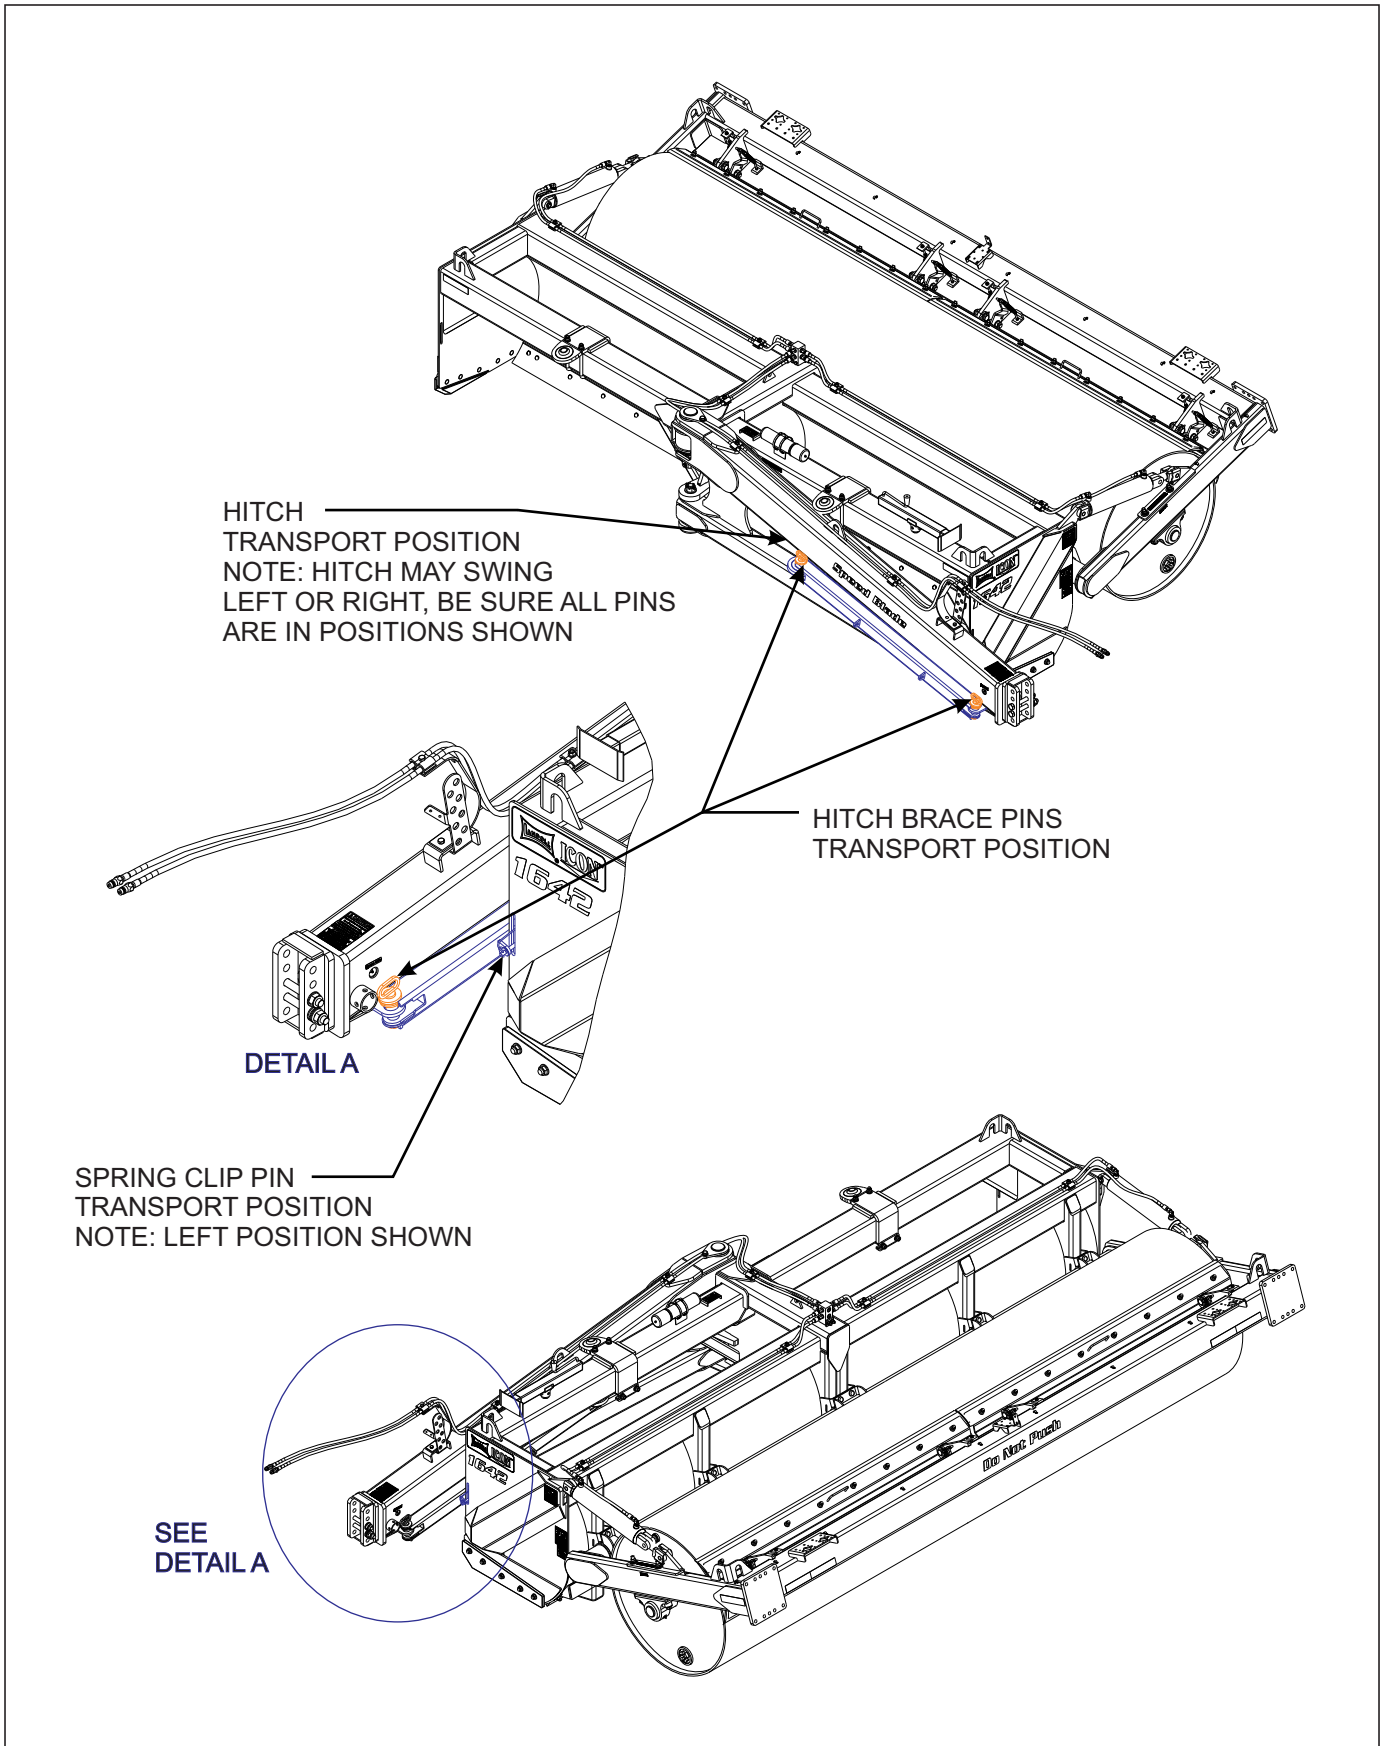

Figure 5-1: Hitch Swing (1 of 2)
- When all pins are secured in positions shown (**See Figure 5-1.**)the speed blade may be transported.